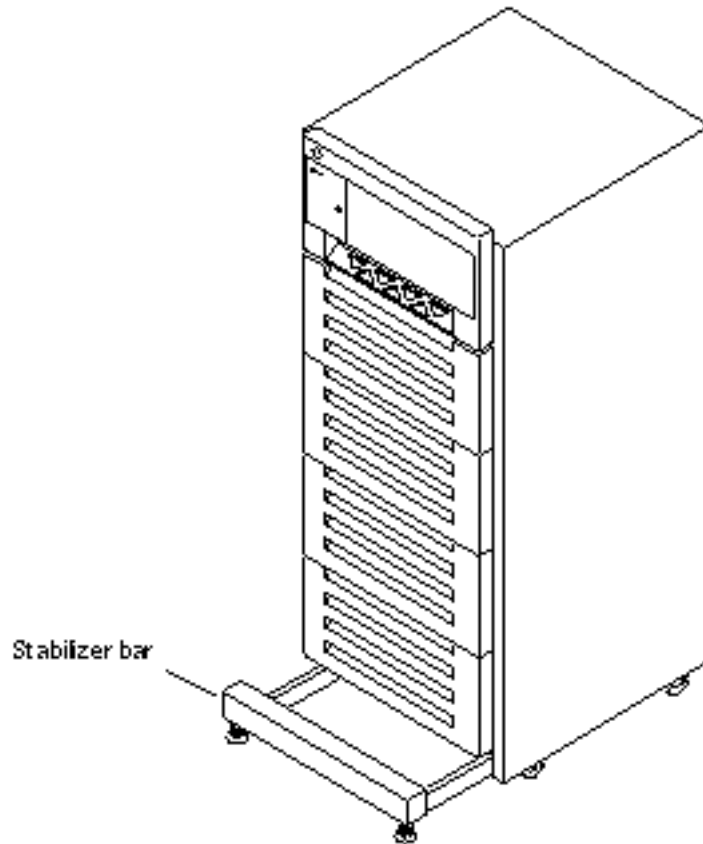

Figure 1-9 Stabilizer Bar
2. Fully extend the stabilizer bar (Figure 1-9) from the bottom of the cabinet.